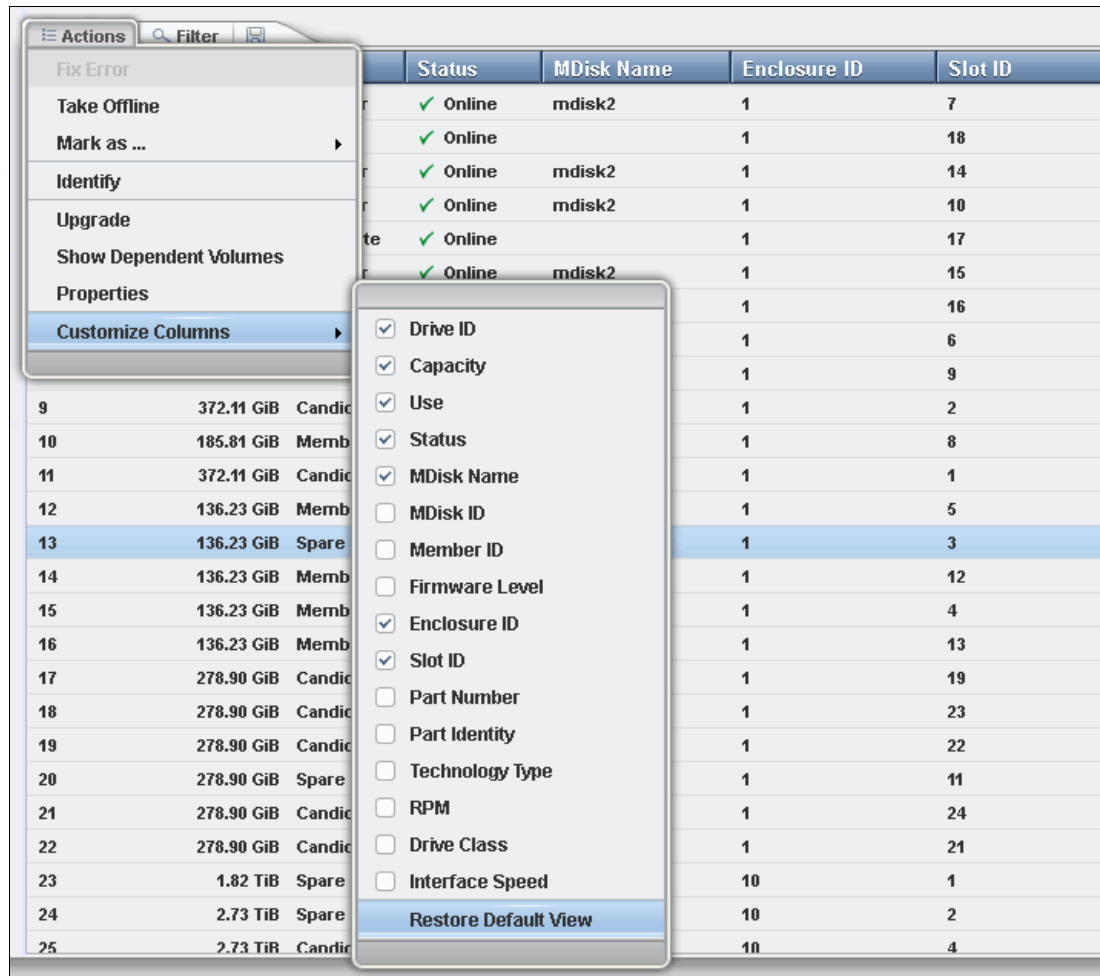

Figure 7-18 Customizing columns
2. To restore the current view, select **Restore Default View**, as shown in Figure 7-18.